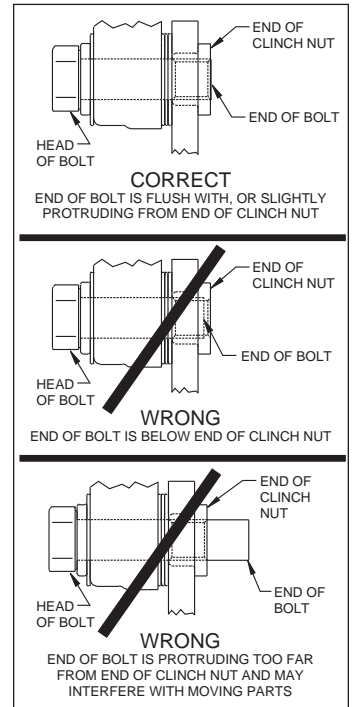

Figure 3. Clinch Nut Engagement Diagram
**Assembly Instructions** (numbers in parenthesis refer to the parts list and Figure 1 on the preceding pages): **CAUTION:** All mounting bolts must fully engage clinch nuts. Be sure to check that all bolts are either flush or protruding through flanged side of clinch nut after shimming, Figure 3.
- Screw dust cap (16) into hub (6), Photo 7. Friction created by the o-ring (15) on the dust cap keeps it from unscrewing. **NOTE:** The O.D. of the existing OEM spindle washer may be larger than the I.D. of the dust cap not allowing it to seat against the hub face. Therefore, use the spindle washer (14) supplied with the kit instead of the OEM washer.
- NOTE:** Please reference the caution statement at the beginning of the assembly instructions. Mount the caliper (17) onto the caliper mounting bracket (1) using bolts (20) and washers (19), as shown in Figure 1. Initially place two .035" thick shims (18) on each bolt between the caliper and the bracket, Photo 8. Temporarily tighten the mounting bolts and view the rotor (10) through the top opening of the caliper. The rotor should be centered in the caliper, Photo 9. If not, adjust by adding or subtracting shims between the bracket and the caliper. Always use the same amount of shims on each of the two mounting bolts. **NOTE:** The end of each bolt must be flush with or slightly protruding from the head of the clinch nut, as shown in Figure 3. If necessary place spare shims between washer (18) and caliper mounting ear to achieve the proper clinch nut engagement. Later, after the calipers are bled, the caliper mounts bolts will be secured using red *Loctite*® 271.